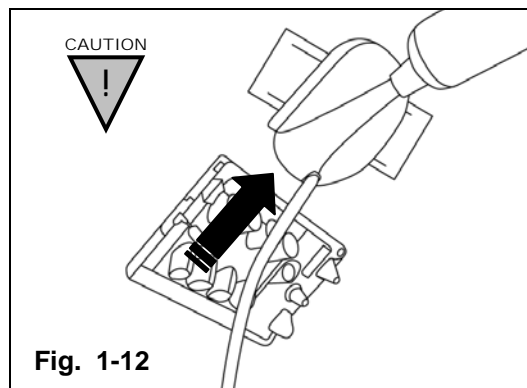

Fig. 1-12
- e) To complete removal of OEM mirror, it is easier to use special tool shown on page 30 of instructions. Figure 1-12 shows mirror removal using special tool.
- f) Insert OEM mirror removal tool into notch at bottom of mirror mount and slide upward between windshield mounting button and mirror mount. **(Fig. 1-12)**